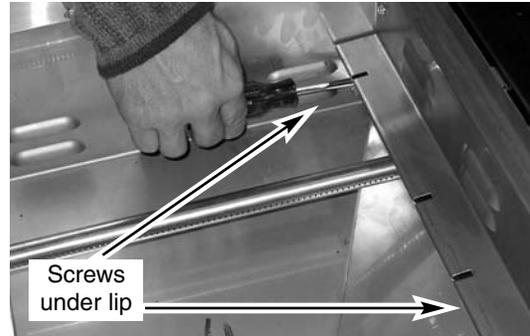

Fig 5
5. Remove the screws from the bottom of the heat shield, holding the front heat shield in place. The screws are located under the bottom lip of the shield (Fig. 5).
24. Reinstall the front heat shield (Fig. 5, 6, and 7).